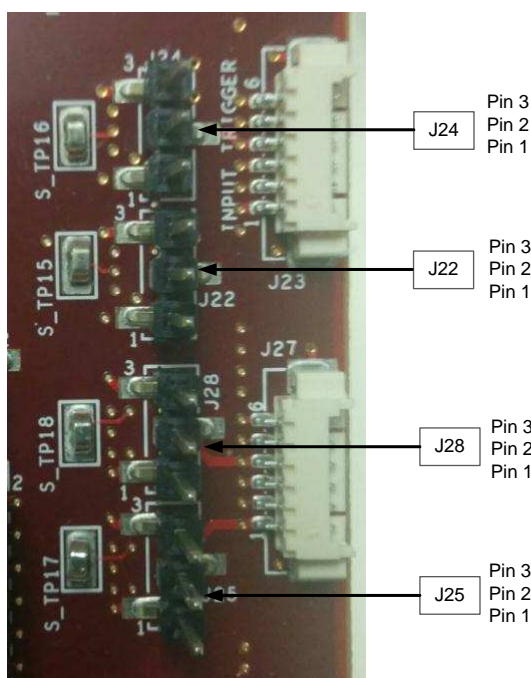

Figure 1-8. DLP LightCrafter 9000 Trigger Voltage Level Selectors
- J22 – Trigger Input 1 voltage level selectors. See Figure 1-8.
- J24 –Trigger Input 2 voltage level selectors. See Figure 1-8.
- J25 –Trigger Output 1 voltage level selectors. See Figure 1-8.
- J28 –Trigger Output 2 voltage level selectors. See Figure 1-8.
Both input and output triggers have voltage level selectors. Use J22, J24, J25, and J28 to select the voltage as shown in Figure 1-8. If no voltage is selected, then the onboard logic will not be functional and any outgoing or incoming signals will not be available.